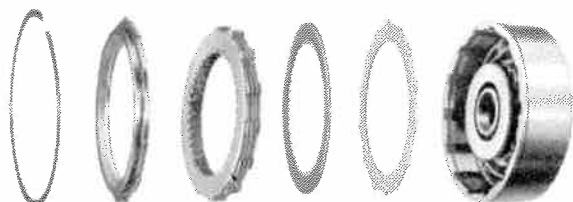

Fig. 7-76 Direct Clutch Assembly
- (4) Remove backing plate, four composition, and four steel clutch plates from direct clutch assembly (fig. 7-76).